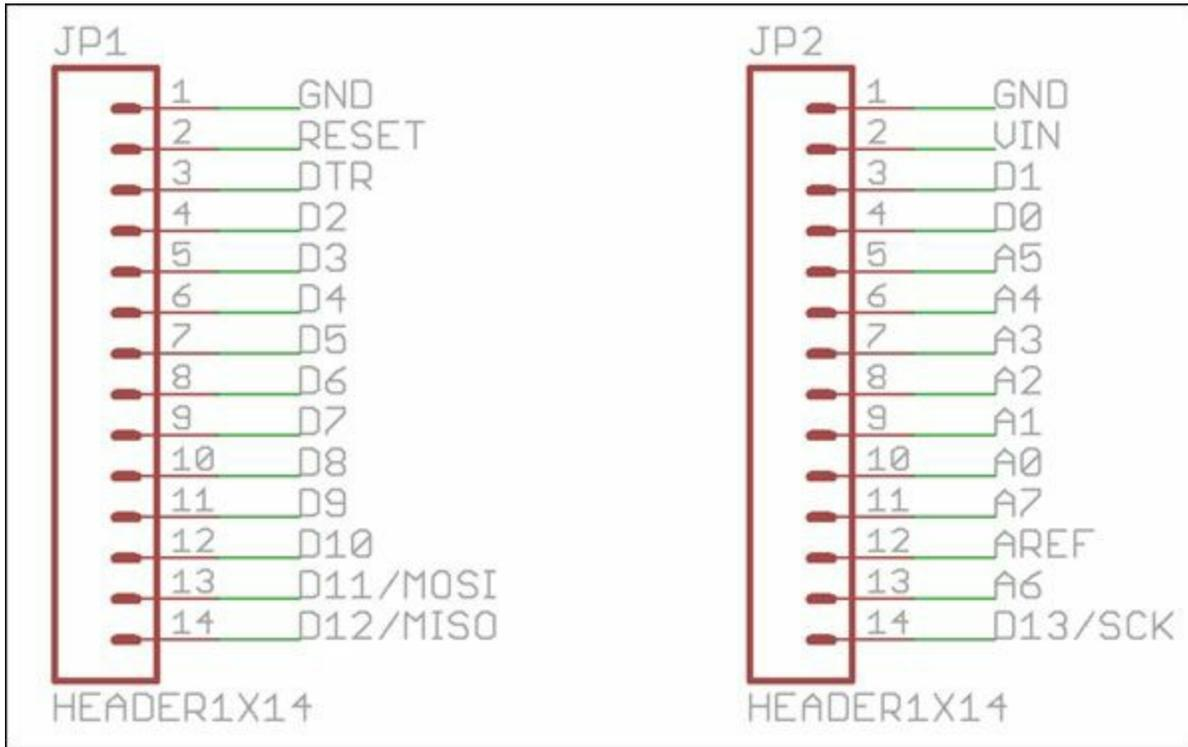

Figure 4.8: The Breadboard Headers
3. For the first header, JP1, extend a net from each pin and assign the name shown on the left side of Figure 4.8.
4. For the second header, JP2, draw nets from each pin and assign the names shown on the right side of Figure 4.8.